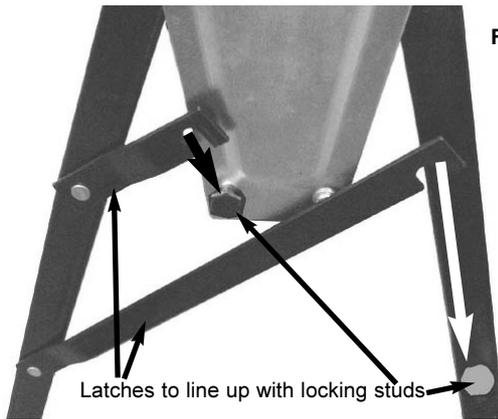
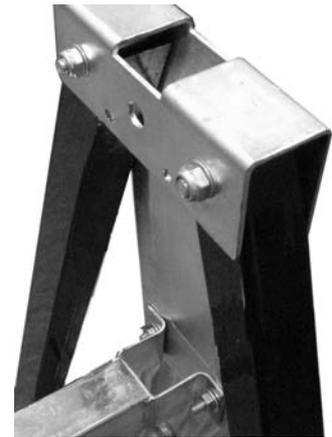

Fig. 4.
Fig. 5.
3.2. Attach the legs to the upright supports using the 38mm bolts (fig. 5.) ensuring that the latches are the correct way round (fig. 4.).